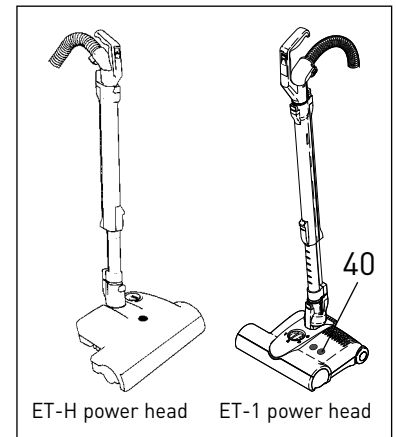
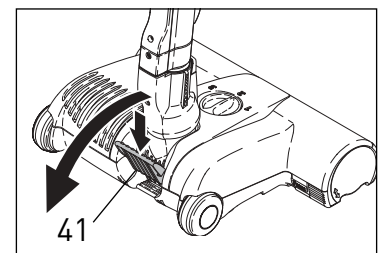
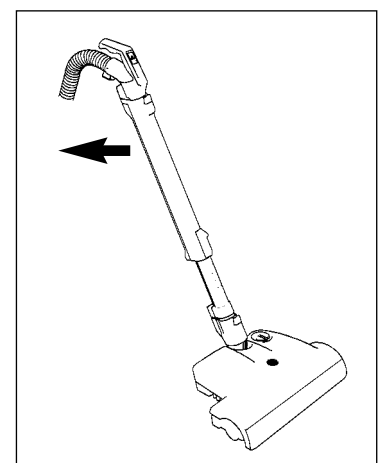

Figure 8
Figure 10a
Figure 10b
Before turning on your canister, make sure that the vacuum handle is in its upright locked position (figure 8).
4. Slide the Power Control Slider (2) to the ON position (the slider will "click" when it is pushed out of the OFF position). It will then slide freely between 0 suction and MAX suction. Set the slider to the suction desired. Release the foot pedal on the ET-1 power head (#35, figure 10a) or, for the ET-H power head, lower the handle (figure 10b).
Operating The Machine - Figures 10a & 10b
When the power head is on with the handle in the upright locked position (see figure 8 above), the brush roller will not spin.
To release the ET-1 power head from the upright locked position, press down on the foot pedal (#41, figure 10a) and lower the handle into the normal operating position and push the button on the top of the power head (#40, figure 8) to engage the brush roller. The green light on the power head will illuminate.
To release the ET-H power head from the upright locked position, gently place your foot on the power head for leverage and lower the handle into the operating position (figure 10b). The brush roller will then start spinning. The amber indicator light may flicker for a few seconds when you lower the handle - this is normal.